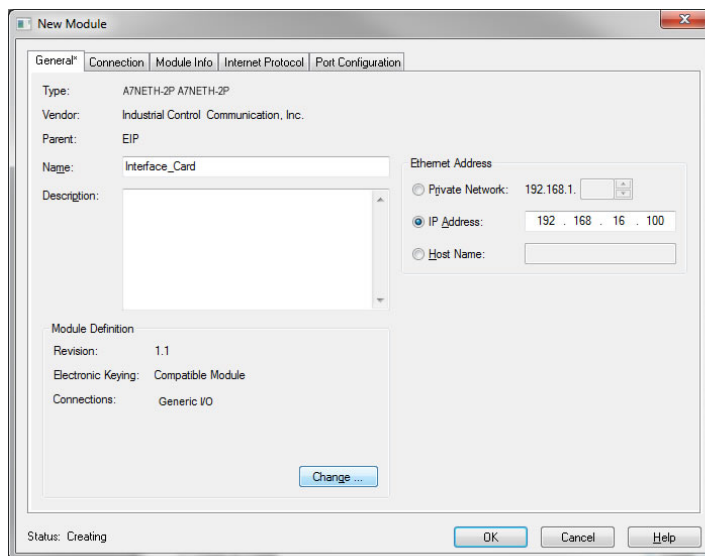

Figure 35: AOP Interface Card Module Properties
12) The “New Module” properties dialog box will open as shown in Figure 35.